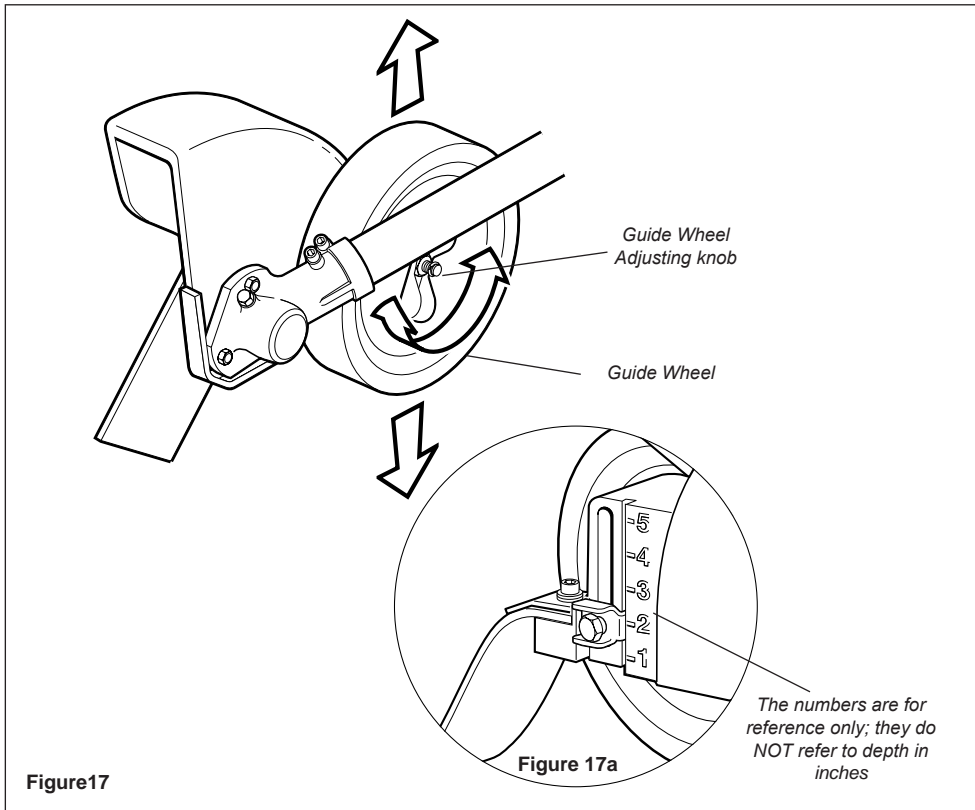

Figure 17
1. Loosen the guide wheel adjusting knob. See Figure 17.
3. Tighten the guide wheel adjusting knob firmly. See Figure 17.